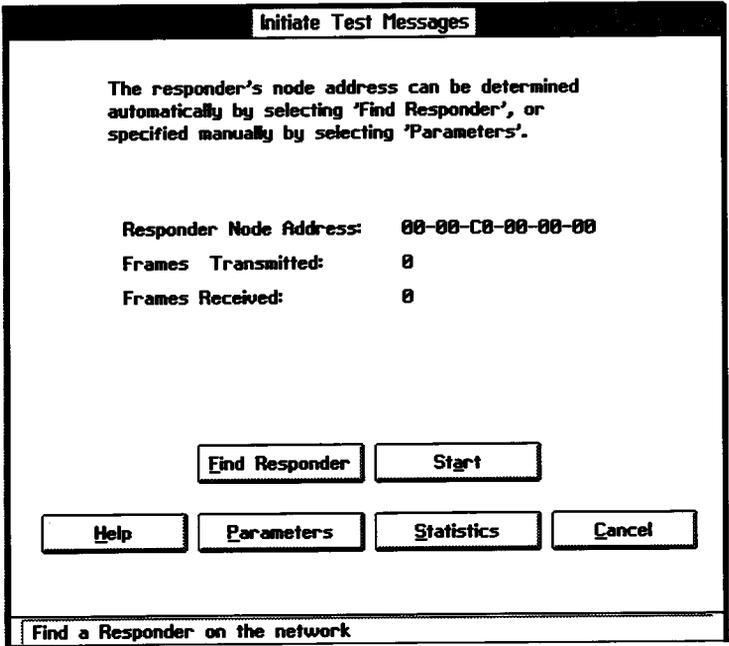

Figure D-3. Initiate Test Messages Screen
2. Select **Initiator** from the **Two Node Test** box. An **Initiate Test Messages** screen similar to the one in Figure D-3 appears.